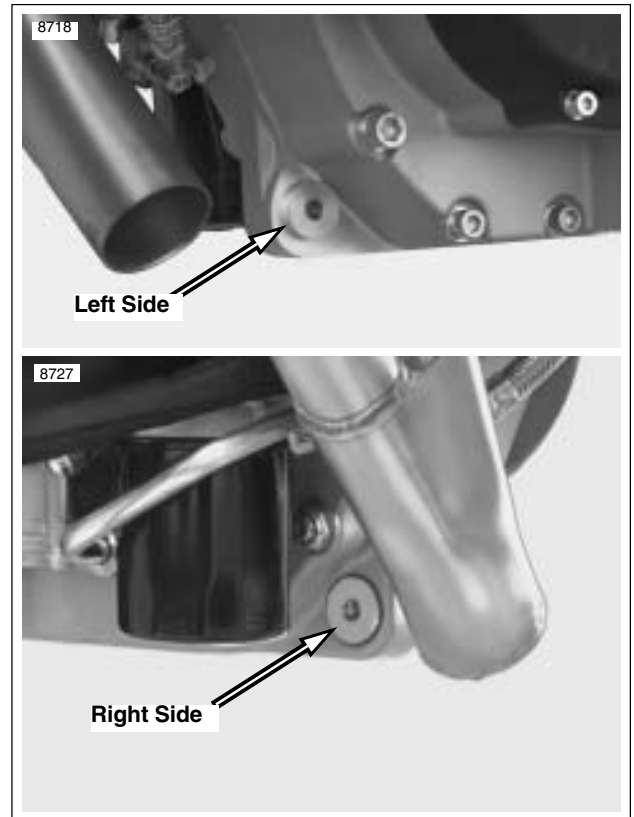

Figure 3-30. Front Exhaust Mount Bushings (2 piece)
- See Figure 3-30. Aluminum bushings from front exhaust mount.